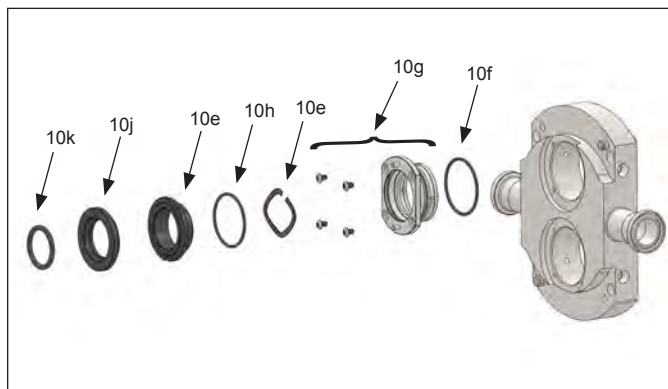

Figure 35.
1. Remove the stationary seals from the pump body (Figure 35, item 61).